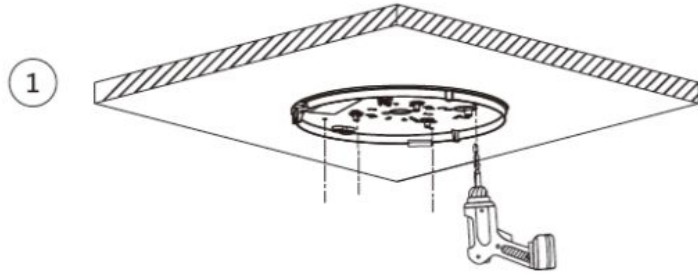

Figure 2-1
Step 1 Remove the Mounting plate from the bottom of the camera. Drill pilot holes for the mounting screws as well as ensure there is cable pass through as well if it will be utilized. See Figure 2-1.